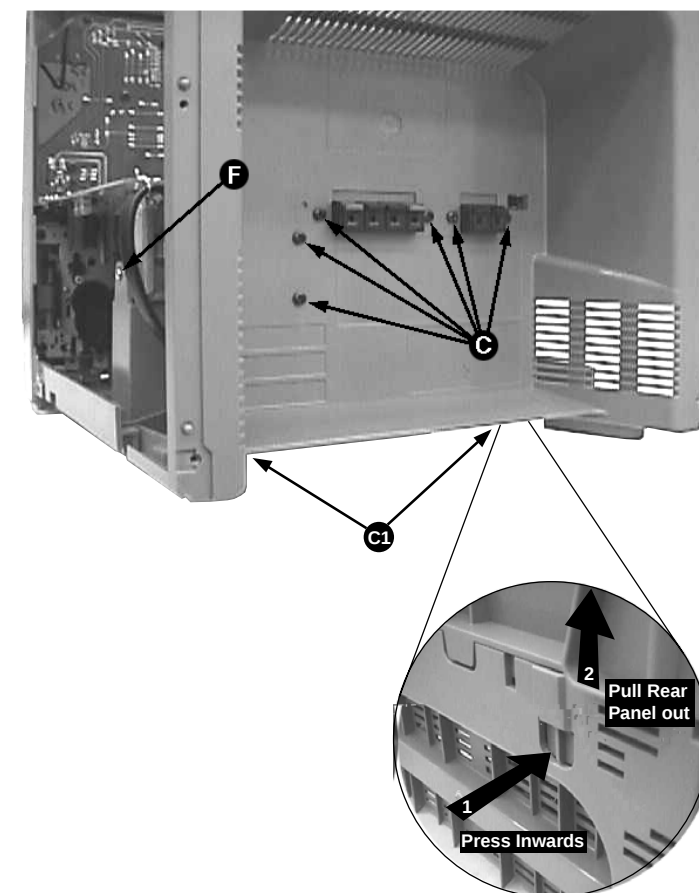

Figure 5
2) Remove 1 screw E supporting the bracket, Combi board (pos 33) to the Panel front (pos 8).
3) Remove 1 screw F (see figure 5) mounting the Mains transformer body to the Panel Bottom (pos 25).